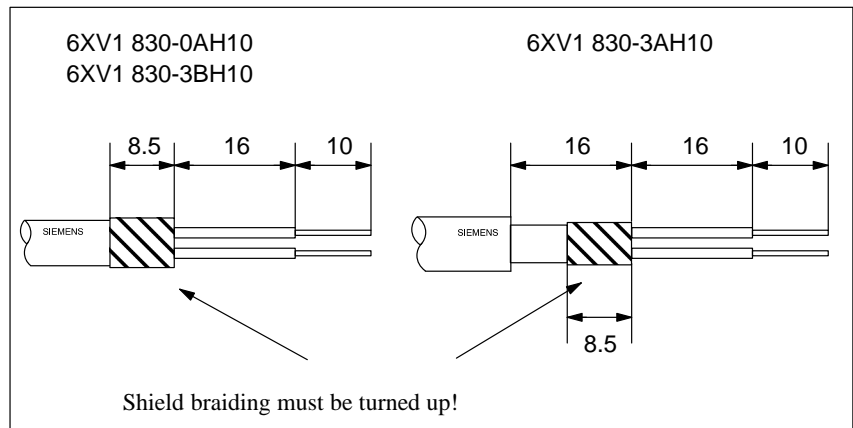

Figure 7-17 Lengths of the Stripped Insulation for Connection to the RS 485 Repeater
2. Strip the insulation of the PROFIBUS bus cable as shown in Figure 7-17.